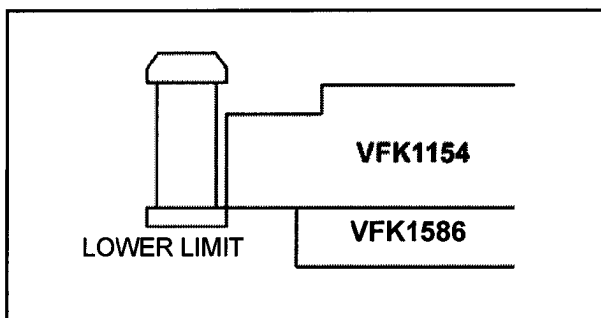

Figure 3-1-1
2. Put the Post Height Fixture (VFK1154) on the Mech. Neutral Plate, and adjust Lower Limit as shown in figure 3-1-1.